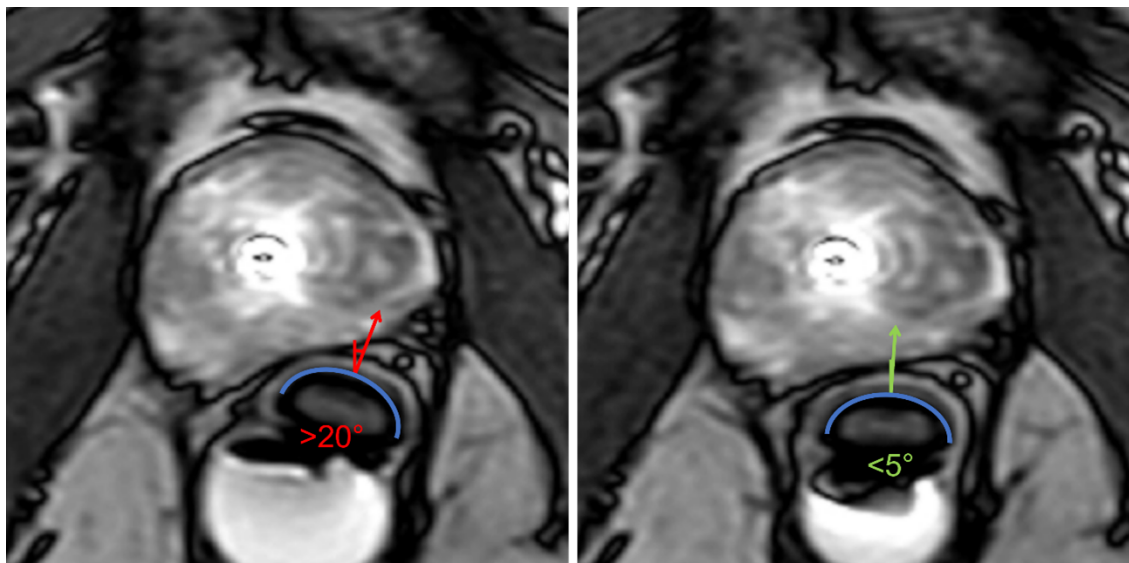

Figure 30: Axial images depicting ECD oriented incorrectly (left, rotated more than 20 degrees) and correctly (right, facing up towards the prostate)
- b. The orientation of the cooling window should face the prostate (anterior), as confirmed on the axial MRI (*Figure 30*).